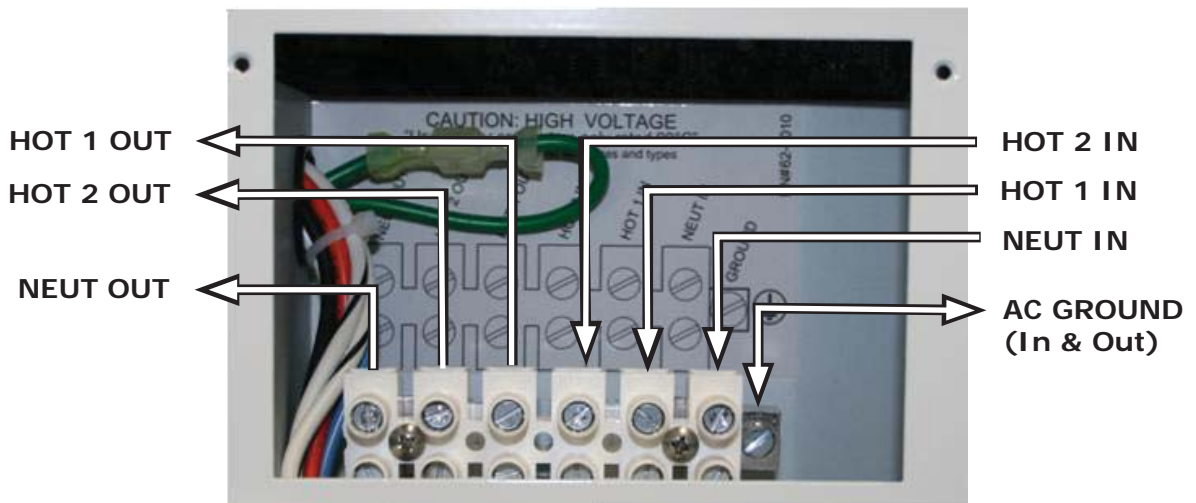

Figure 2-8, AC Terminal Block
The MS2012, MS2812, and MS4024 models have a six-pole AC terminal block and one AC ground terminal to connect the inverter’s AC input and output wiring. This terminal block (see Figure 2-8) allows a service/distribution panel (main panel) to be wired to the inverter’s input, and also allows a dedicated panel (sub-panel) between the inverter’s output wiring and the AC loads. To access and view the AC terminal block and ground terminal, remove the two Phillips screws holding the AC wiring access cover plate (see Item 15, Figure 1-3).
1. Remove the two Phillips screws on the AC wiring access cover (Item 15, Figure 1-3) to access the internal AC terminal block (see Figure 2-8).